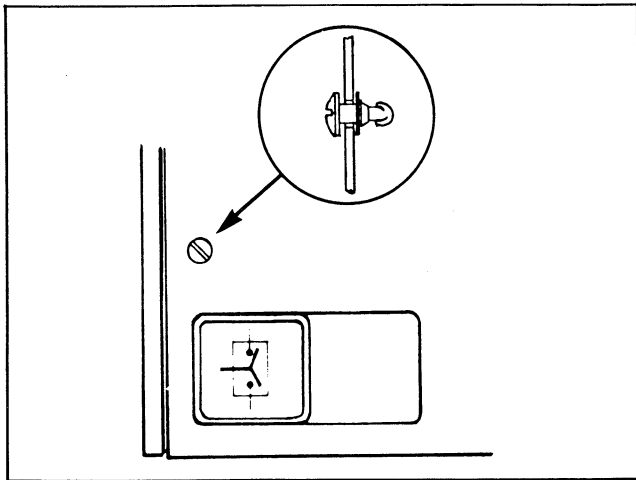

Figure 21. Cover Removal
3. Remove the cover from the Control Panel as follows: Locate the two fasteners on the face of the cover. Use a screwdriver to turn the fasteners $\frac{1}{4}$ turn until cover is released (Figure 21).
- Install the cover on the Control Panel as follows: Align the cover over the two standing brackets and push it toward the panel. Then turn the two fasteners until they secure the cover (1/4 turn). See Figure 21.